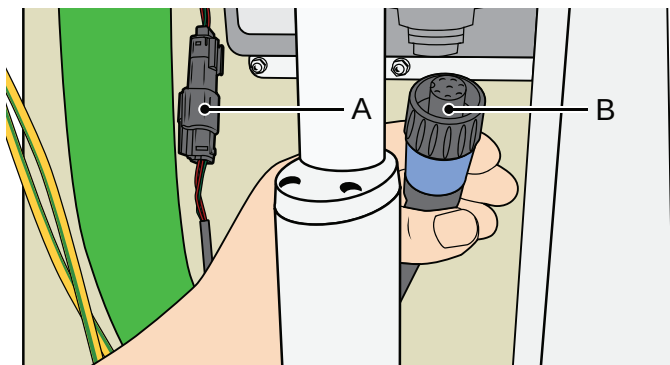

Figure 50
1. Disconnect the inlet sensor connector (detection of Hydrosound guard) (A) and the transducer connector (B). See Figure 50.